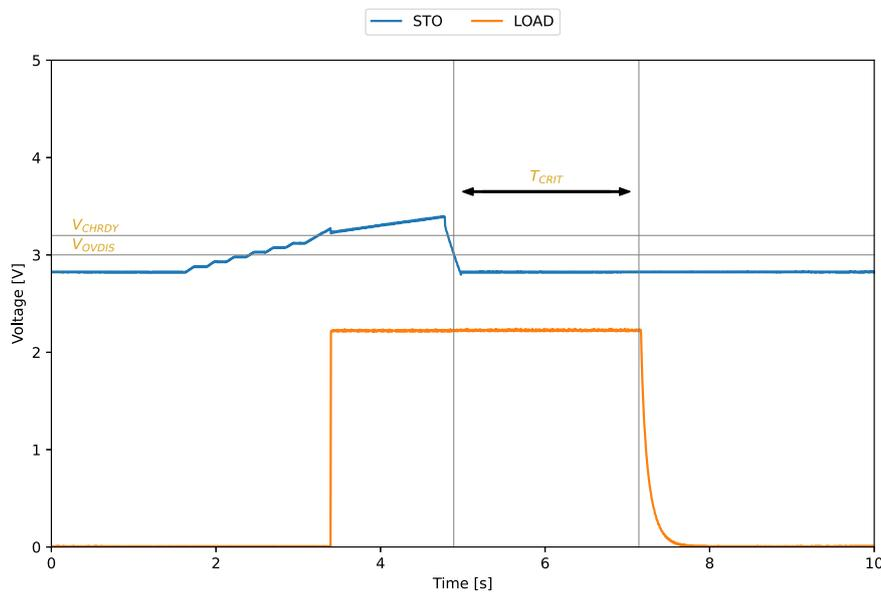

Figure 4: AEM00920 LOAD output behavior
- Disconnect the power supply from **SRC** (done at about 4.75 s on Figure 4).
**NOTE:** in a real application, the storage element would be a battery or a supercapacitor, with much higher stored energy, so that  $V_{STO}$  would not drop as low as on Figure 4 during  $T_{CRIT}$ .